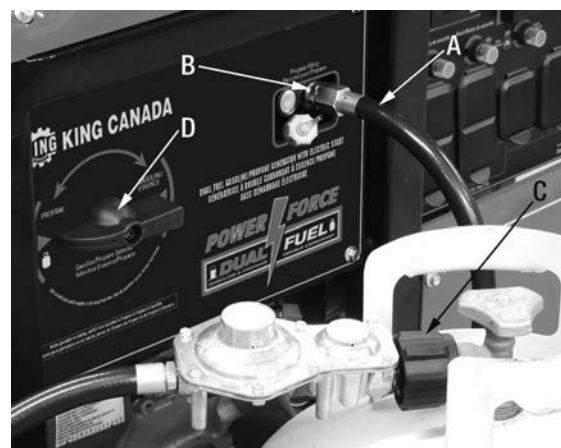

Figure 7
- 1) This generator comes with a propane connection cable (A) Fig.7. Connect the small end of the cable to the propane fitting (B). Using a wrench, tighten well to avoid any leaks.
- 2) Connect the larger nut (C) at the other end of the cable to the nut on your propane tank. Tighten well to avoid any leaks.
- 3) Before operating, or during operation, if you desire propane as your source of fuel, turn the Gasoline/Propane Selector lever (D) towards the left so the lever points at the propane tank symbol as shown.